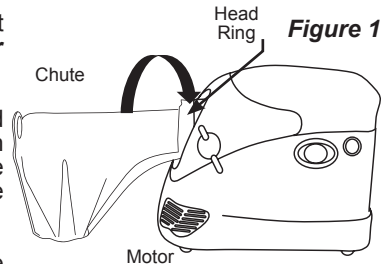

Figure 1
1. Hold the **Chute** with the outlet tilted almost fully downward and the head ring facing the **Motor** (figure 1).